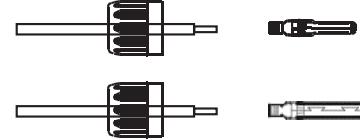

Figure 5.13 Insert the Wire into the Connector Cap nut and contact pin
- Insert the wire into the connector cap nut and contact pin. (see Figure 5.13)